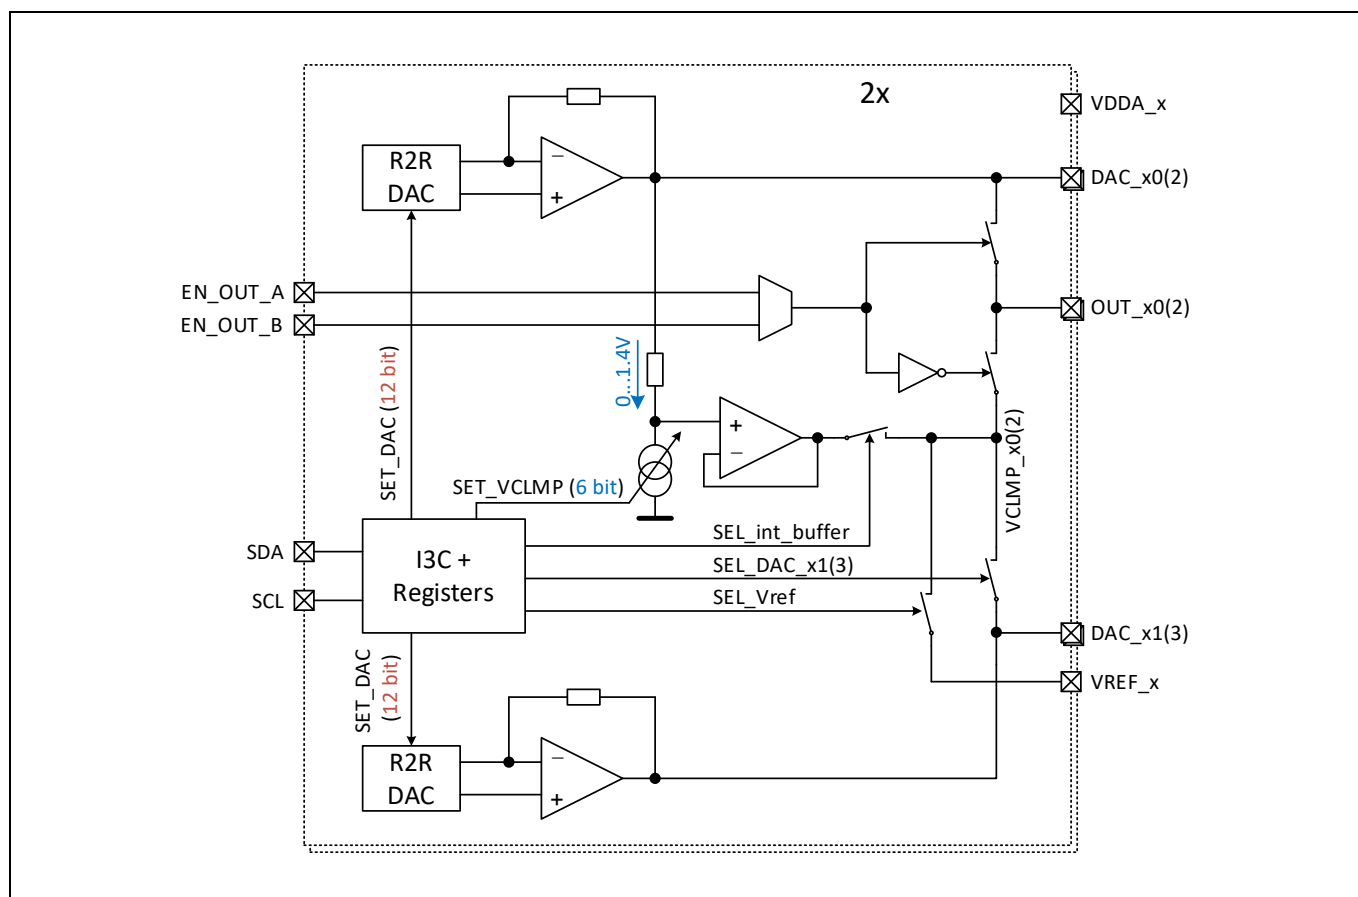

Figure 5 DAC and Bias Switches
The BGMC1210 IC offers 2 independent groups of outputs A and B, each consisting of 4 DACs with separate supply domain per group. Block diagram of one such DAC group is shown on Figure 5 (half is shown for clarity reasons). 2 of the DACs (DAC_x0(2)) are connected to OUT_x0(2) outputs via gate biasing switches for TDD support. Every DAC has a 12 bit resolution, internal reference voltage and can be adjusted in range and offset. Supply range per DAC group is defined by reference potential VREF_x and supply input VDDA_x: (VDDA_x - VREF_x). Supply can be selected in voltage range from -8...0V up to 0...8V, so that enhancement type LDMOS transistors as well as depletion type GaN transistors are supported.